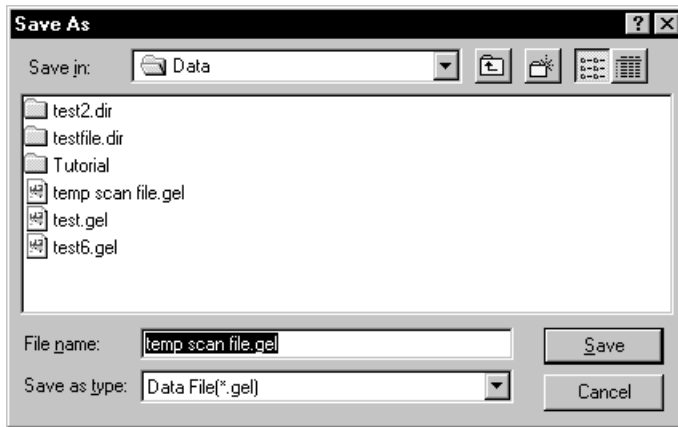

Figure 6-10. The Save As window for entering the data file name for the image.
2. Click the **Scan** button. The Save As window appears (figure 6-10).